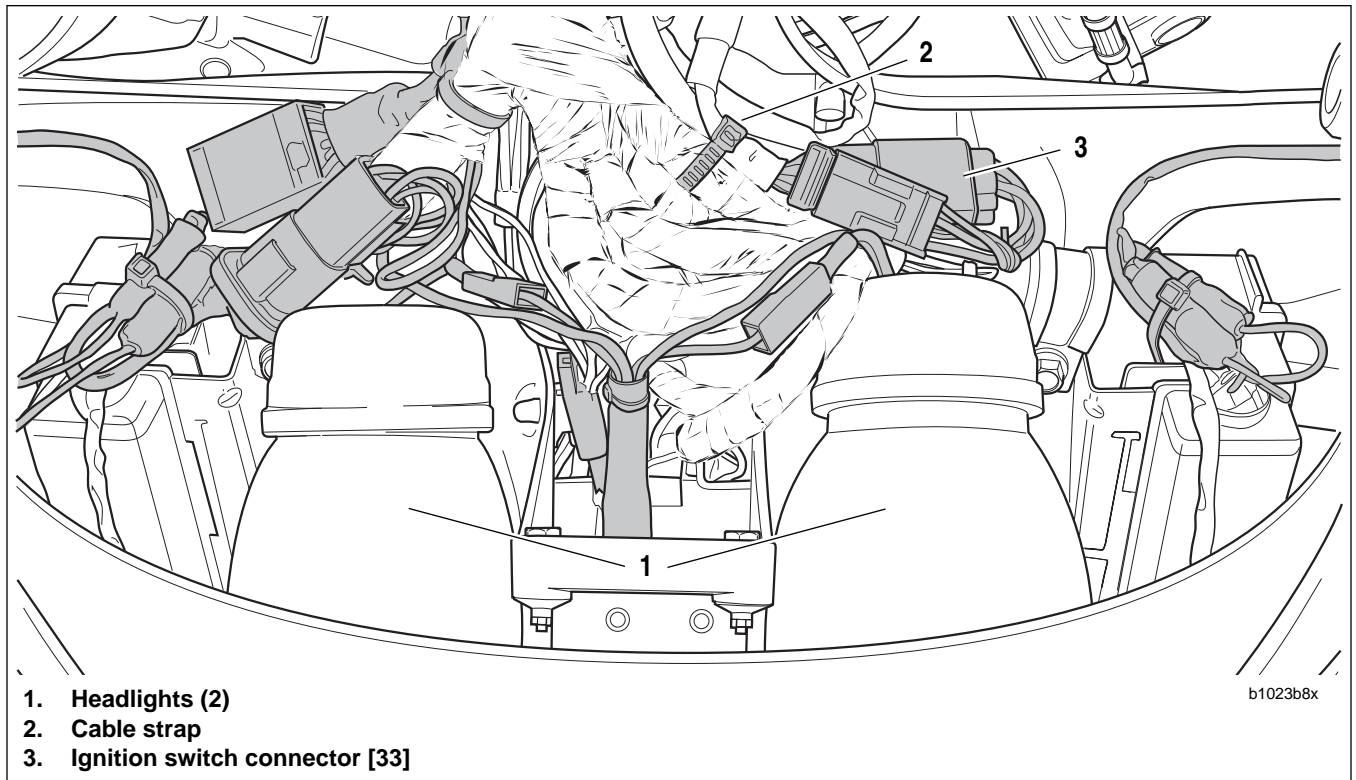

Figure 7-6. Ignition Switch Connector (viewed from underneath fairing)
3. See Figure 7-6. Cut cable strap (2) holding ignition switch, fuse block and right handlebar switch wires.
4. Disconnect ignition switch connector [33] (3).
- a. Apply LOCTITE 272 to upper fork clamp pinch fasteners (1).
- d. Install steering stem pinch fastener (2) applying LOCTITE 272 and tightening to 23-25 ft-lbs (31-34 Nm).
5. See Figure 7-6. Connect ignition key switch connector (3) to wiring harness. Install cable strap (2) around ignition switch, fuse block and right handlebar switch wires.